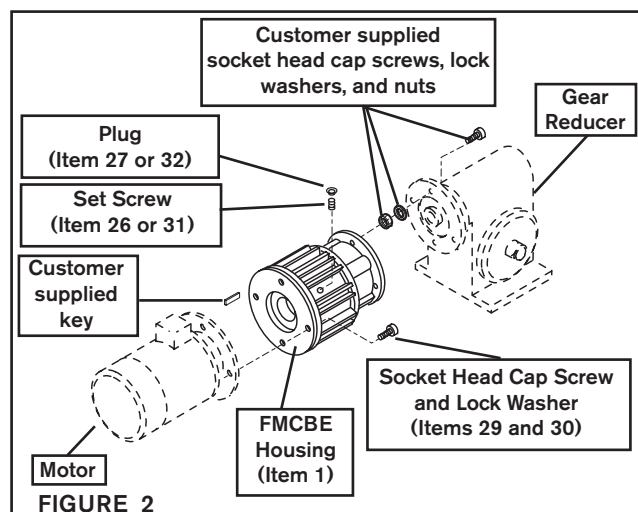

FIGURE 2
4. Slide the FMCBE output shaft into the gear reducer (See Figure 2).
5. Secure the FMCBE to the gear reducer, using customer supplied socket head cap screws, lock washers, and nuts (See Figure 2).
8. Insert the customer supplied key into the motor shaft keyway (See Figure 2).
9. On Model 625, secure the FMCBE to the motor using Socket Head Cap Screws (Item 29) and Lock Washers (Item 30) and tighten them to the recommended torque (See table 1 and Figure 2).
11. Tighten the Set Screw and install the Plug (See Figure 2).